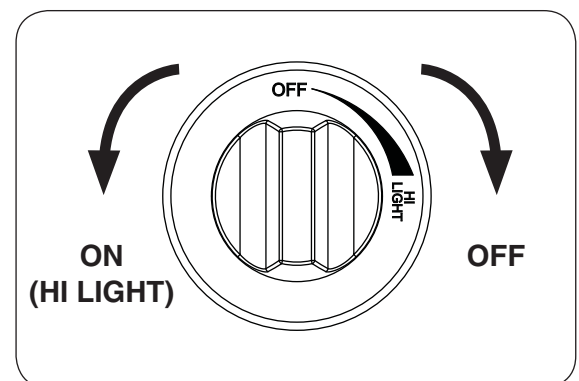

Fig. 17-2
4. **Once the match is burning and in position**, depress the gas control knob and turn it counter-clockwise to the **HI LIGHT** position (see Fig. 17-2). Your burner should light.
**To extinguish your gas burner**, depress the gas control knob and turn it clockwise to the **OFF** position (see Fig. 17-2). Be sure the control knob is turned fully off to avoid any gas leakage.